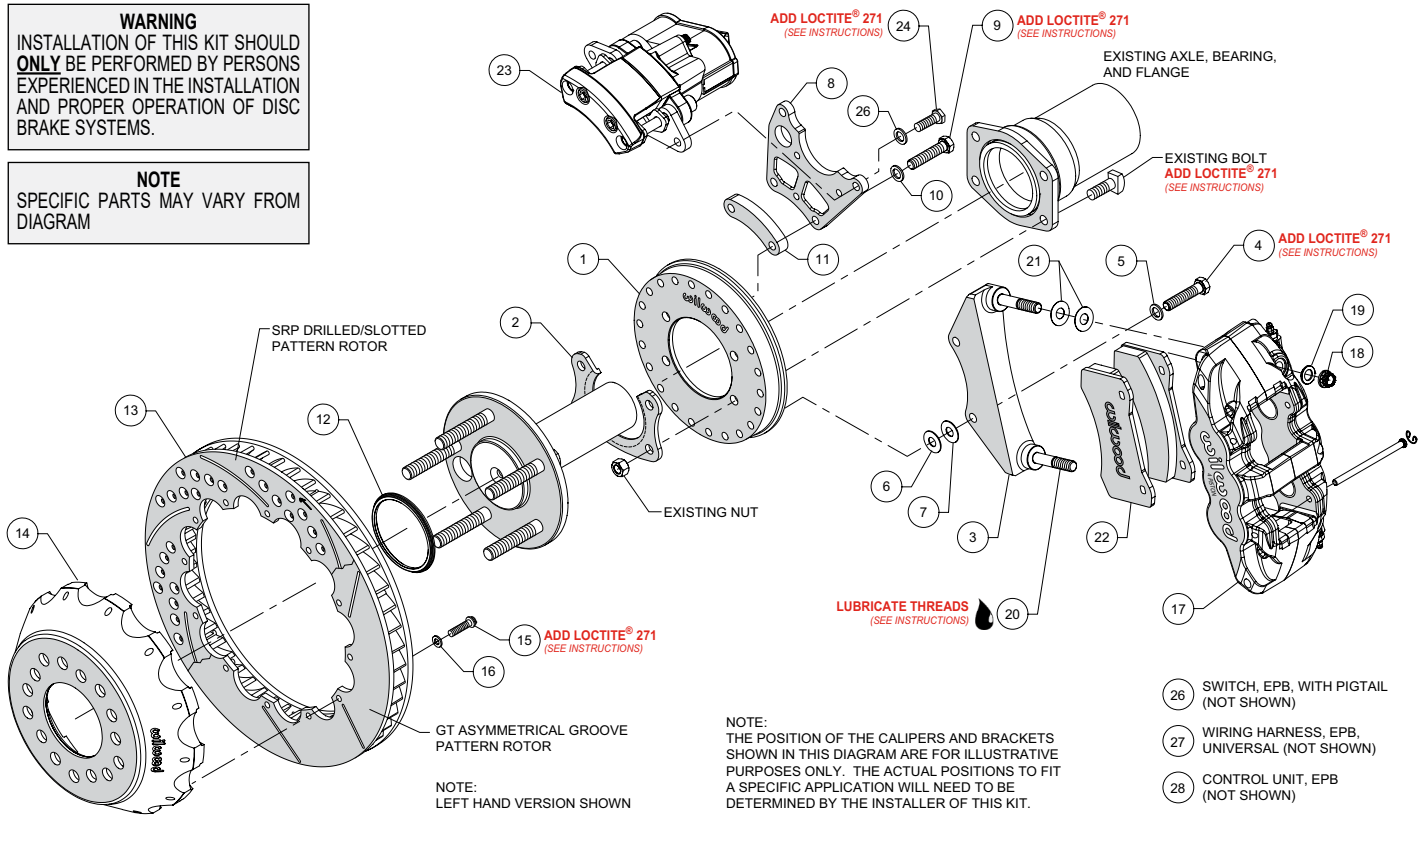
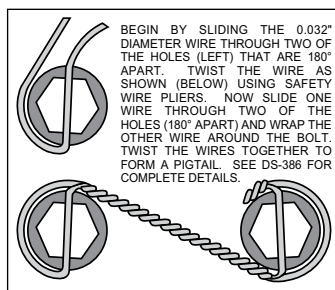

Figure 1. Typical Installation Configuration
Figure 5. Safety Wire Diagram
NOTE: Numbers in parenthesis refer to the parts list, and Figure 1 on the preceding pages.
- Orient the backing plate (1) as shown in Figure 1 and Photo 1, and slide it onto the axle housing flange. Ensure the
- Install the bearing retainer (2) with the opening pointing upward and the lip facing inward (toward the bearing), as shown in Figures 1 and 4, and Photo 2. Secure retainer and backing plate to the axle housing flange using the Original Equipment Manufacturer (OEM) bolts and nuts, Figure 1 and Photo 3. Apply red *Loctite*® 271 to the OEM bolt threads and torque to OEM specifications.
- Start by determining the best location for the service caliper (17). This caliper is usually mounted in the 3:00 or 9:00 o'clock position, but may be rotated up or down approximately 45 degrees and still allow for proper bleeding, Photo 4. Orient the service caliper bracket (3) as shown in Figure 1 and Photo 5, and install to the backing plate (1) in the desired location using bolts (4) and washers (5). Temporarily tighten bolts. Next, mount the service caliper onto the bracket. Lubricate the caliper mounting studs (20) with lightweight oil. Mount the service caliper using lock nuts (18) and washers (19), Figure 1. Temporarily tighten the lock nuts. Check that the caliper (including inlet fitting and hose) has sufficient clearance to all surrounding components through the full suspension travel. Relocate the caliper/bracket on the backing plate as needed to ensure proper clearance is achieved.
- Determine the best location for the EPB caliper (23). **NOTE:** *The EPB caliper motor extends farther inboard than the service caliper and therefore needs additional consideration when determining a mounting location with sufficient clearance.* In the example application shown in Photo 6, the EPB caliper has sufficient inboard clearance to the leaf spring. However, if the EPB caliper were mounted closer to the 12:00 o'clock position, the inner body of the vehicle would hit the caliper during full compression of the suspension.
•Orient the EPB caliper bracket (8) as shown in Figure 1 and Photo 7, and install to the backing plate (1) in the desired location using bolts (9), washers (10), and spacer (11). Temporarily tighten bolts.
•Orient the rotor (13) and the hat (14) as shown in Figure 1 and Photo 8. Attach rotor to hat using bolts (15) and washers (16). Apply red Loctite® 271 to the bolt threads and torque to 155 in-lb using a criss-cross pattern. For an added measure of security, the bolts may be safety wired using standard 0.032 inch diameter stainless steel safety wire as shown in Figure 5. Please refer to Wilwood's data sheet DS-386 (available at www.wilwood.com/Pdf/DataSheets/ds386.pdf) for complete safety wire installation instructions.
•Initially place two .030" thick shims (21) on each stud of the service caliper bracket (3), as shown in Figure 1 and Photo 10. Mount the caliper onto the bracket using lock nuts (18) and washers (19), Figure 1. Temporarily tighten the lock nuts and view the rotor through the top opening of the caliper. The rotor should be centered in the caliper, Photo 11. If not, adjust by adding or subtracting shims (6 and/or 7)) between the service caliper bracket (3) and the backing plate (1). Always use the same amount of shims on each of the two mounting bolts. Once the caliper alignment is correct, remove the bracket mounting bolts (4) one at a time, apply red Loctite® 271 to the threads, and torque bolts to 35 ft-lb.
- Remove the service caliper (17), then remove the two pad retaining pins from the caliper by carefully popping out the pin retaining clips and sliding out the pins. Insert the brake pads (22) into the caliper from the bottom, Figure 1 and Photo 12. With the friction material facing the rotor, secure the brake pads in place with the pad retaining pins and clips, Photo 13. Reinstall the caliper onto the mounting bracket and temporarily tighten the lock nuts. Check that the top of the brake pad is flush with the outside diameter of the rotor, Photo 14. If not, adjust by adding or subtracting shims (21) between the caliper and the bracket. After the caliper pad height is set, torque the caliper lock nuts (18) to 47 ft-lb.
- Mount the EPB caliper (23) onto the caliper mounting bracket (8) using bolts (24) and washers (25), Figure 1. Apply red *Loctite*® 271 to bolt threads, and torque to 30 ft-lb.
•**NOTE:** *The service caliper (17) in this brake kit utilizes a 1/8-27 NPT pipe thread inlet. OEM rubber brake hoses generally cannot be adapted to Wilwood calipers. The preferred method is to use steel adapter fittings at the caliper, either straight, 45 or 90 degree (use PTFE tape on pipe threads of adapter fitting for proper sealing to caliper) and enough steel braided line to allow for full suspension travel. Carefully route hoses to prevent contact with moving suspension, brake or wheel components. NOTE: Wilwood hose kits are designed for use in many different vehicle applications and it is the installer's responsibility to properly route and ensure adequate clearance and retention for brake hose components. Wilwood offers universal brake flex line hose kits, domestic (3/8-24 IF) chassis fittings, order:*